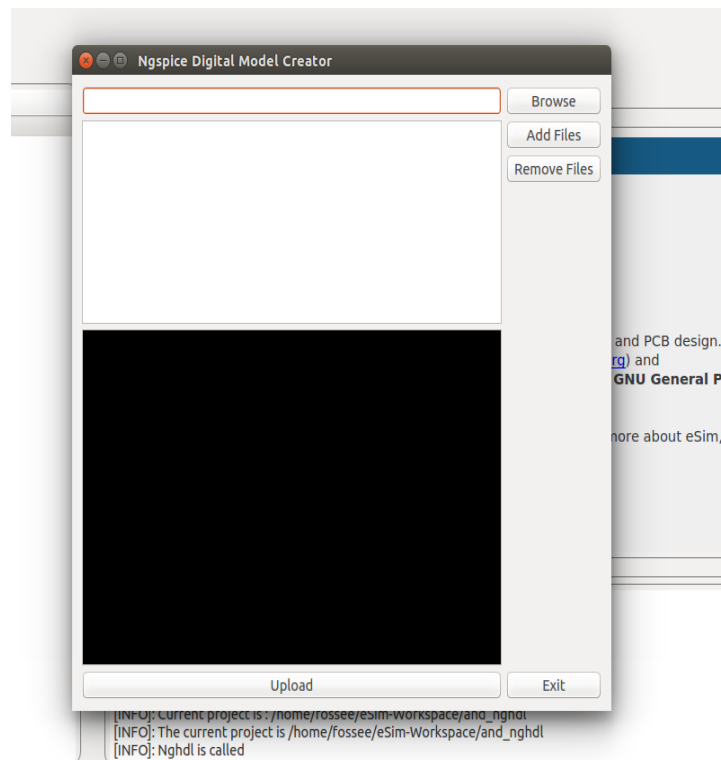

Figure 9.3: NGHDL interface
1. Click on NGHDL button on left side pane of main window, the Ngspice Digital Model Creator window will appear as shown in Fig. 9.3